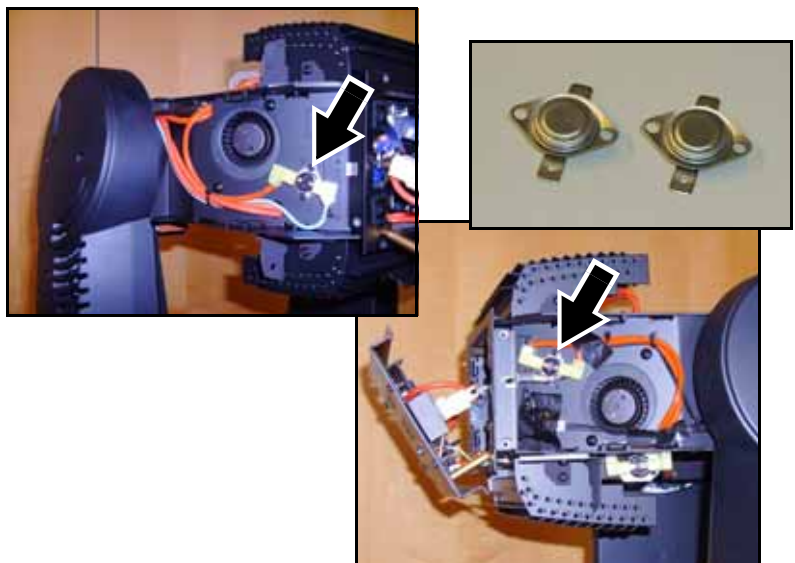

Figure 63
68. See Figure 63. Replace the thermostats (arrowed) in both sides of the head with the two new thermostats (P/N 05040023) supplied in the Upgrade Kit, re-using the existing screws.